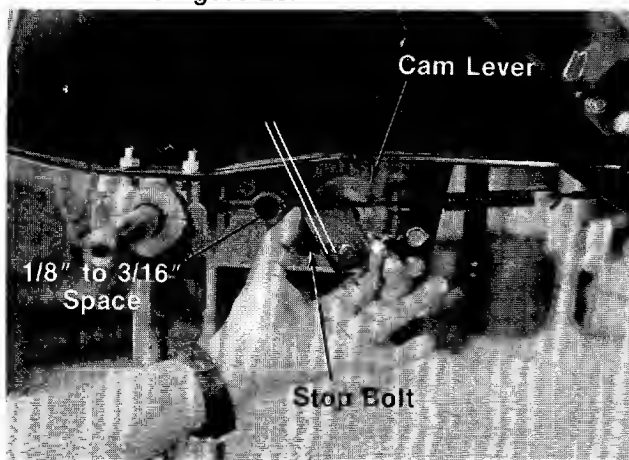

FIGURE 23.
- 2. Loosen the inside nut until the cam lever can be pushed forward so that there is a 1/8" to 3/16" space between the cam lever and stop bolt. See figure 23.